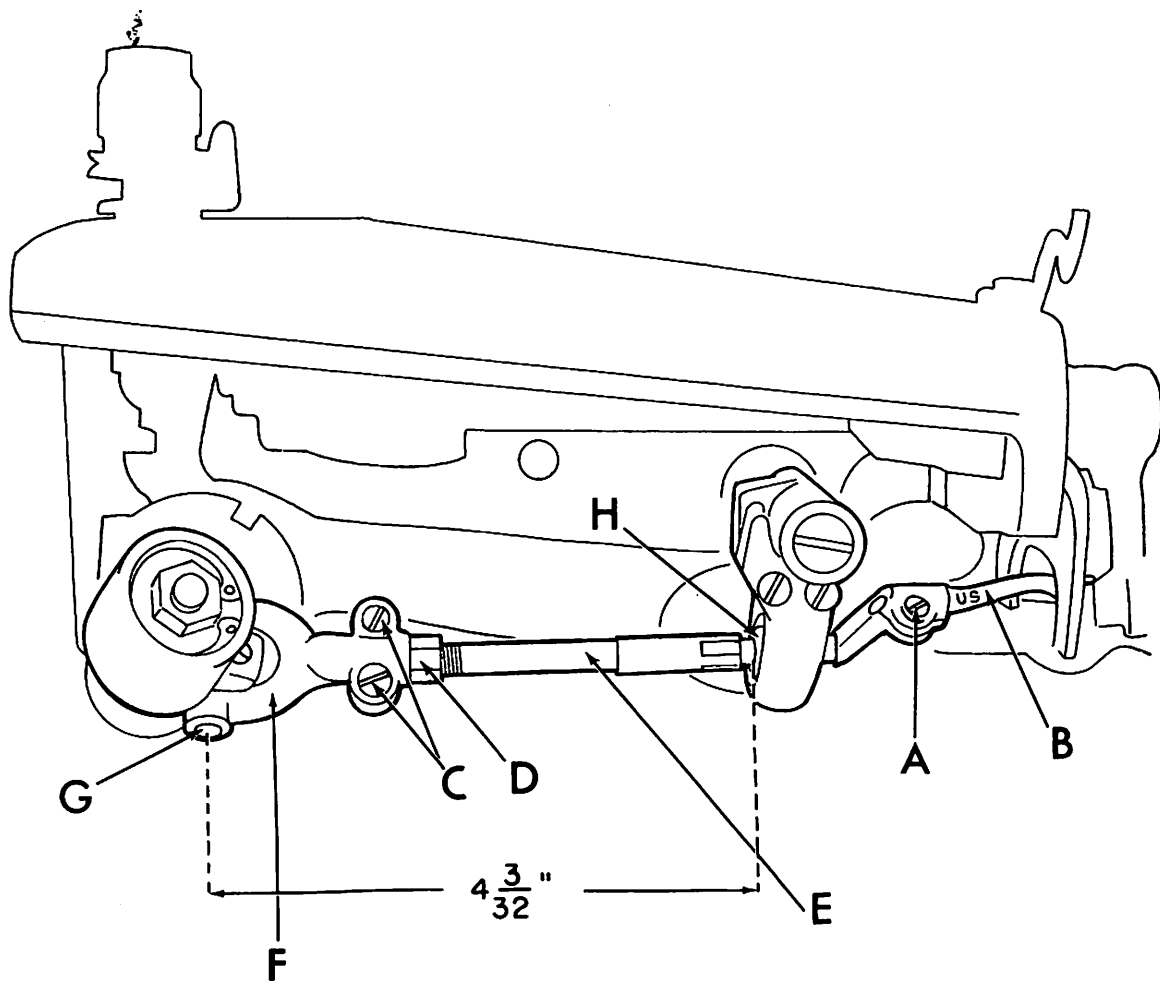

FIGURE 6
1. Should it become necessary to replace the looper (item "B" in Figure 6), loosen the looper clamp screw (item "A" in Figure 6) and remove the old looper. Because of the precise fit of the looper in the looper rod it may be necessary to exert a moderate amount of force to pull the looper out. Insert the new looper into the end of the rod as far as it will go before bottoming on the looper shoulder.
3. To adjust the looper so that the timing checks out as noted in paragraph 2, it may be rotated within its clamp by a limited amount. This adjustment should be made with the looper clamp screw (item "A" in Figure 6) loosened, and the looper bottomed against its shoulder. Do not move the looper in or out, and do not attempt to force the looper to turn beyond the limited amount of travel available.
4. If the adjustment described in paragraph 3 is insufficient to provide the correct timing, it will be necessary to turn the looper rod (item "E" in Figure 6) itself. This may be accomplished by loosening the two looper rod clamp screws (item "C" in Figure 6) and the looper rod clamp nut (item "D" in Figure 6). The rod is then free to turn in the looper rod fork (item "F" in Figure 6). It will normally be necessary to make only a very small adjustment in order to get the looper into the correct rotational position for proper timing. If, for any reason, the rod has been removed or the basic setting of the looper rod has been disturbed by a large amount, it may be reset by noting that the distance from the center of the looper rod fork pin (item "G" in Figure 6) to the rear face of the looper rod ball (item "H" in Figure 6) is normally 4 & 3/32 inches (104mm) (refer to Figure 6). If the rod is set to this dimension then only minor adjustment will be required to bring the looper into the correct timing position. Note that this dimension is merely a guide to assist in setting a rod and variations may be expected from machine to machine.